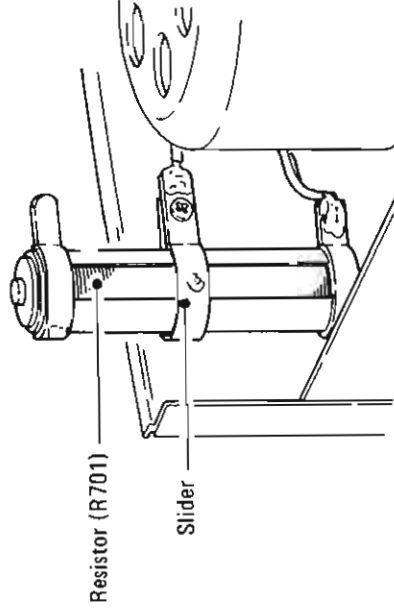

Fig. 5-8
7. If necessary, adjust the slider of the resistor (R701) until the proper torque value is obtained. See Fig. 5-8.